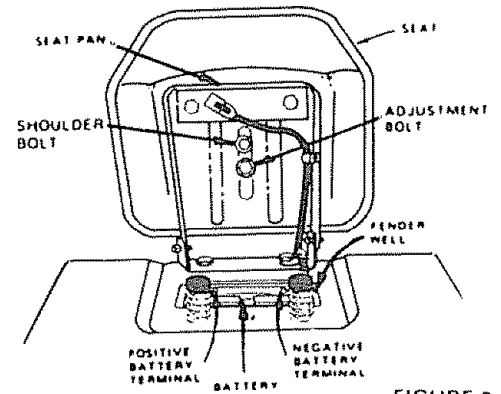

FIGURE 2
- Place seat on seat pan. Screw hex head machine screw, lockwasher and flat washer into seat (Fig. 2). Screw shoulder bolt into seat (Fig. 2). Machine screw, shoulder bolt and washers found in bag of parts (shown full size on page 6).
- a. Lift seat (Fig. 2)